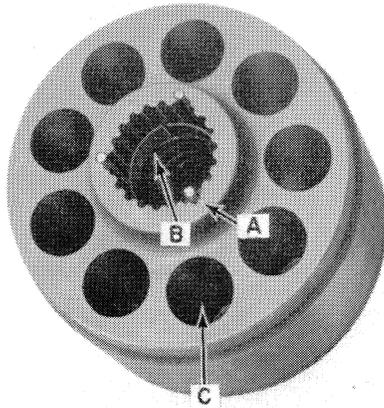

FIGURE 4-27
- a. Cylinders, C, Figure 4-27, are worn or scored so the pistons do not move freely.
- d. The three block loading pins, A, Figure 4-27, are spring loaded. They are held in place by the pin keeper (split bushing), B.